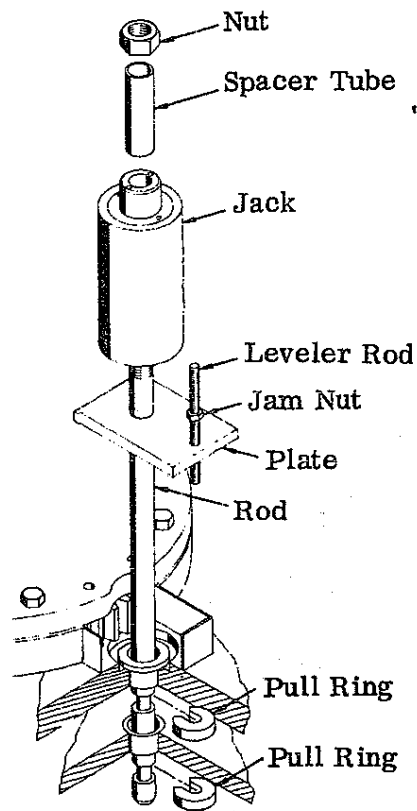

Figure E-11. Pinion Gear Bushing Removal
5. Install the bearing removal tool as shown in Figure E-11.